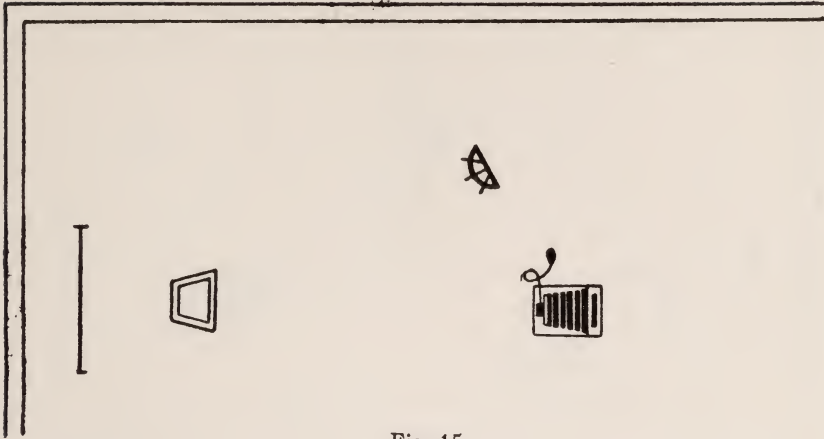
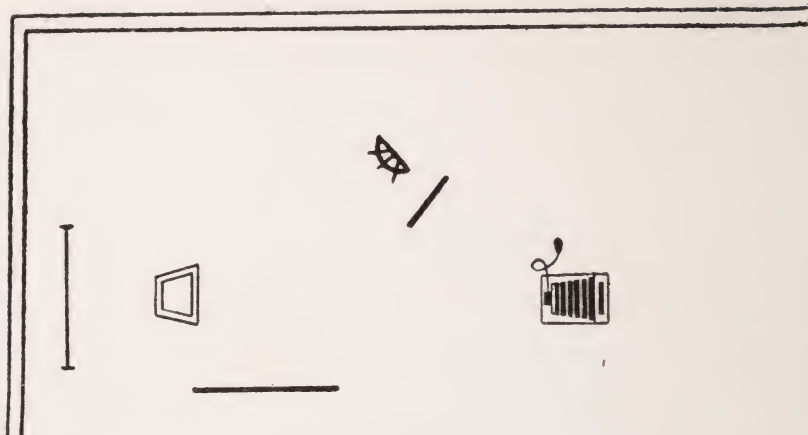
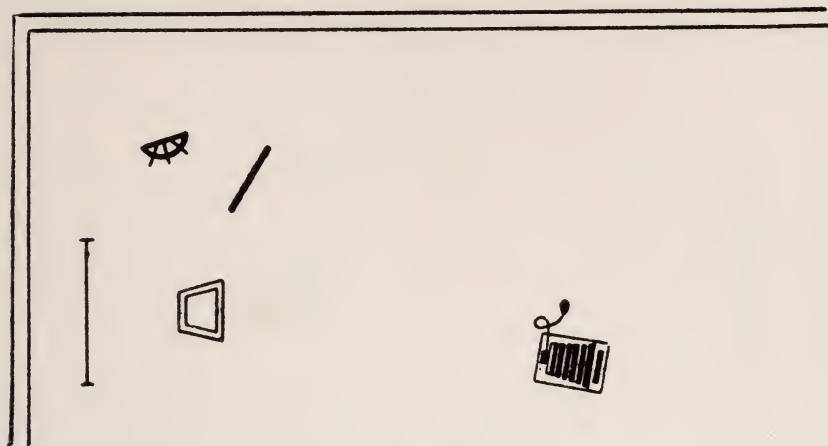

Fig. 15
Fig. 16
Fig. 17
**Flashlight Lightings.**— In the diagrams illustrating flashlight lightings, two new accessories are introduced, *i.e.*, the flash — represented by the device which looks like a portion of a cog wheel, suggesting the spreading of the light from the center, and an opaque screen to shade the lens from the flash — represented by a short heavy line. Fig. 15 shows the arrangement for a simple broad lighting effect in a small room, with screen and flashlamp, which should be about 2 feet in front of, 2 feet to the side, and 3 feet above the head of the sitter. Fig. 16 indicates about the same effect with the addition of a reflector. In Fig. 17 we have the arrangement for a Rembrandt effect, the lamp being placed somewhat